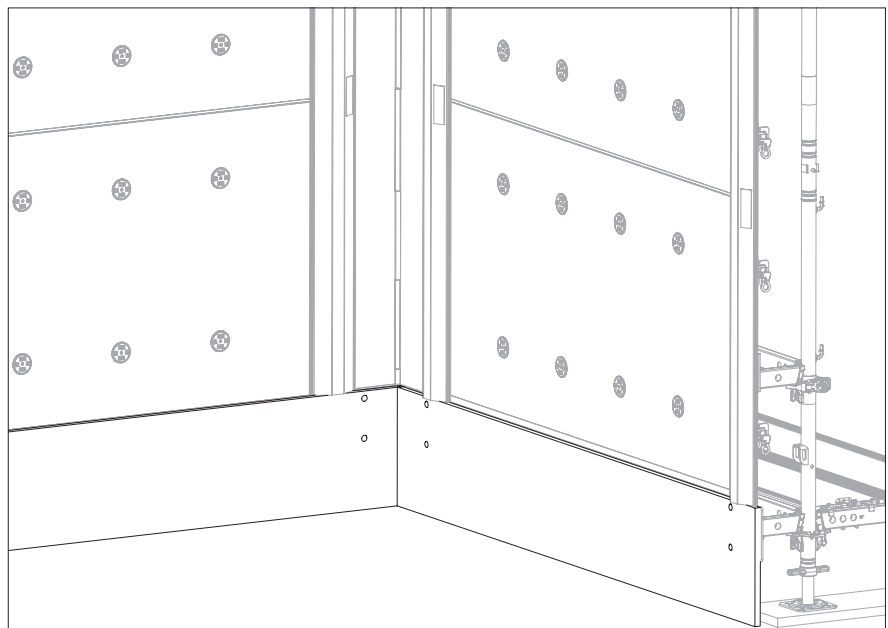

Fig. C2.08
2. Close the bottom end with a keder tarpaulin or wooden panel (30), See chapter "Floor finish" on page 33. (Fig. C2.08)